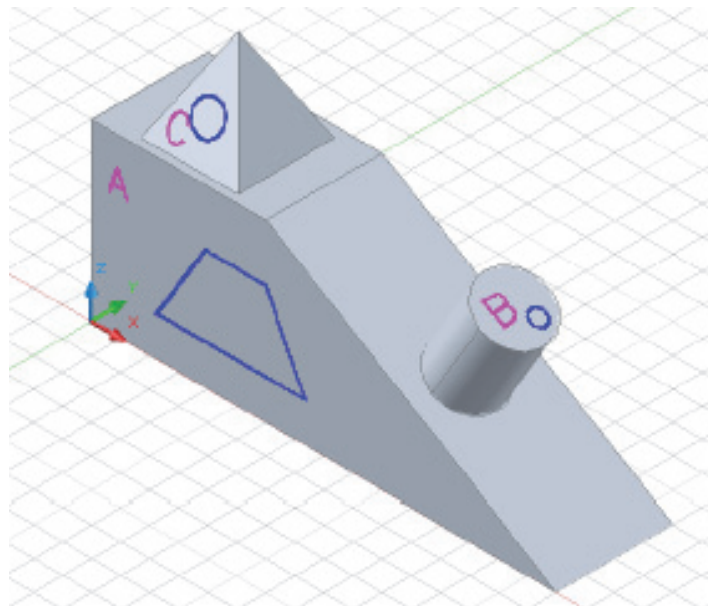

Figure 1–28
5. In the *Home* tab>Draw panel, click  (Line). Hover over Face A until it highlights and add several lines to the surface, similar to those shown in Figure 1–28.